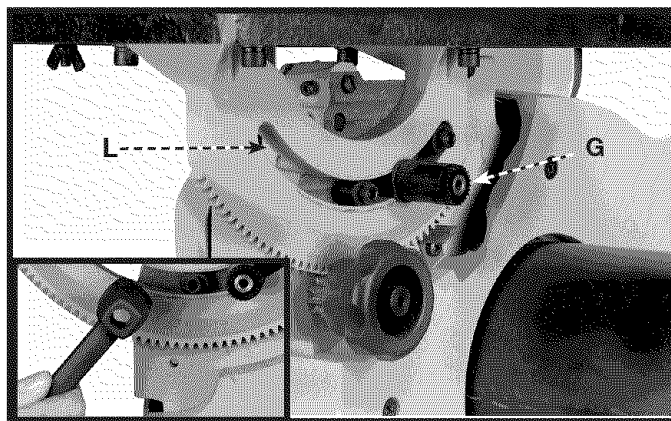

Fig. 12
4. Re-assemble the locking lever stud (G) Fig. 12 through the trunnion slot (L) and tighten with the table locking lever handle (see inset).